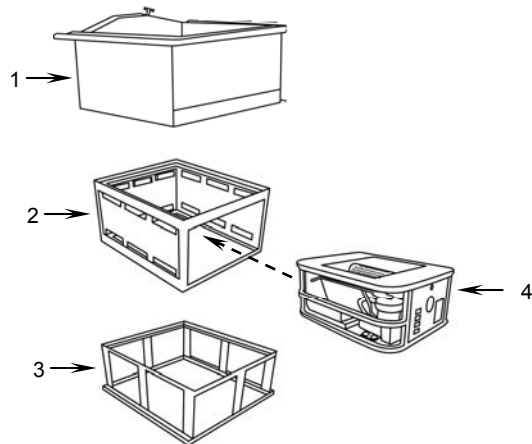

Figure 40. Disassembling the Sink Assemblies.
- d. Separate the sink assemblies (**Figure 40, Item 1**), burner racks (**Figure 40, Item 2**), and base racks (**Figure 40, Item 3**); leave the burner units (**Figure 40, Item 4**) in the burner racks (**Figure 410, Item 2**).